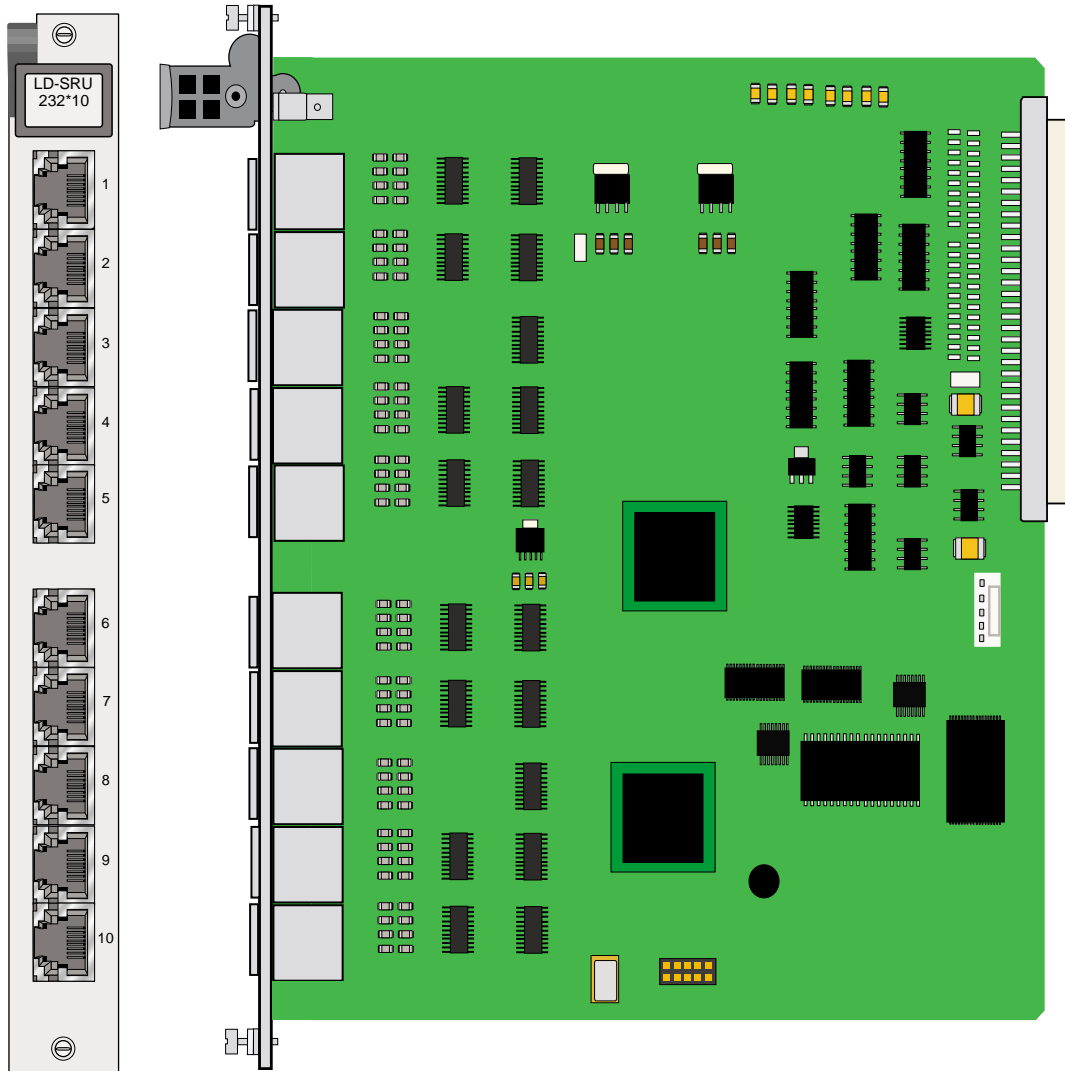
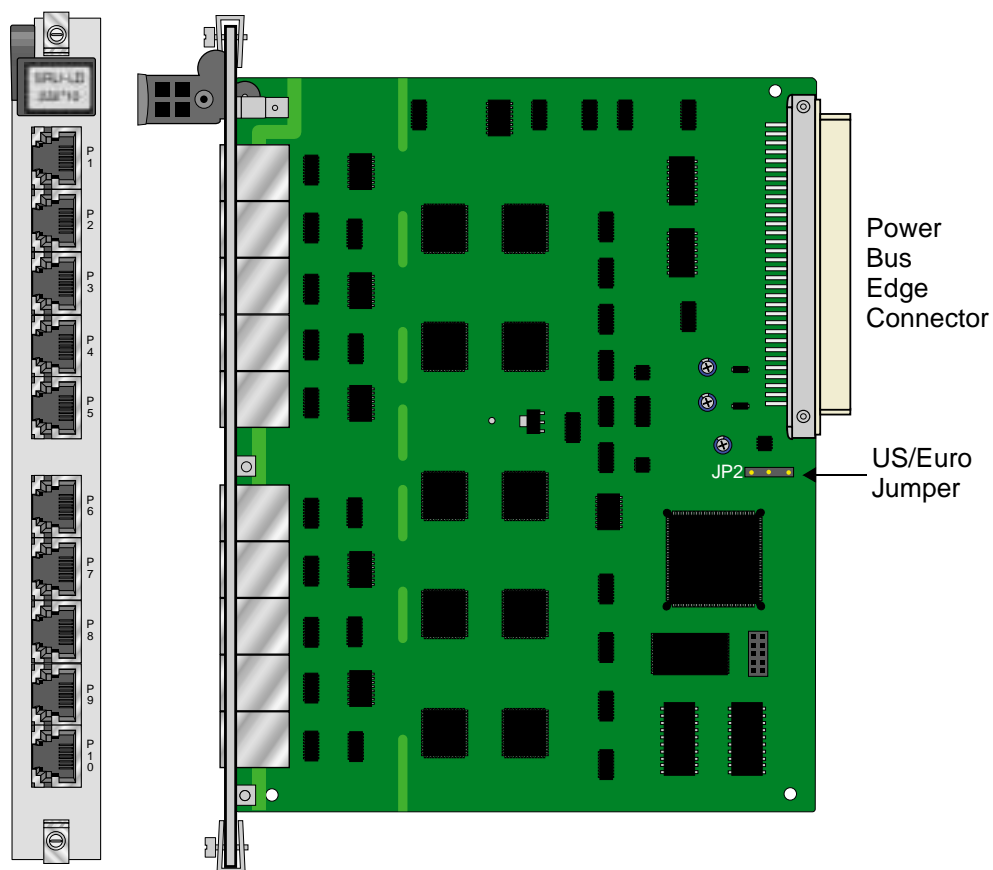

Figure 16-3.PRM-822570 LD-SRU board
Figure 16-4.PRM-822560 SRU-LD*10 Card Jumper Settings
2. Faceplate numbering. The PRM-822570 card has ports labeled 1 through 10, where the last number (10) has the digits side by side. The PRM-822560 card has port labeled P1 through P10, and the letters and numbers are all arranged vertically.
4. Faceplate fasteners. The PRM-822570 card has thumbscrews for fasteners, which are larger and can be turned with a phillips or straight-edge screwdriver. The PRM-822560 has smaller screws that can be turned only with a straight-edge screwdriver, and the faceplate itself has raised "dimples" where the screw is located. The PRM-822570 has no such "dimple". See Figure 16-3 and Figure 16-4 for representations to the two cards.
The SRU-LD*10 Card has US/Euro jumpers or switches on its mainboard. JP2. See Figure 16-4.